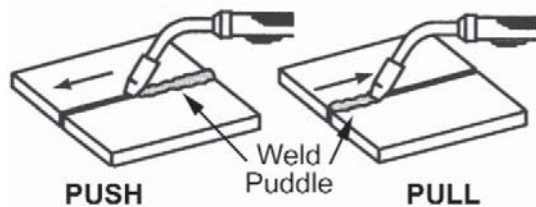

Figure 12. Travel Direction
1. TRAVEL DIRECTION is the direction the gun is moved along the weld joint in relation to the weld puddle. The gun is either PUSHED (see Figure 12) into the weld puddle or PULLED away from the weld puddle.